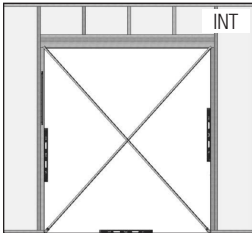

FIG. 2
- B) Verify the rough opening is plumb, level and square. For doors with clad exterior casings, additional nailer studs may be required around the perimeter of the rough opening. (Fig. 2)
- C) Take diagonal measurements to check for square. (Fig. 2)
- D) Make sure the bottom sill area of the rough opening is flat and level. Correct rough opening if sloped toward the interior, out of level, or humped. (Fig. 2)